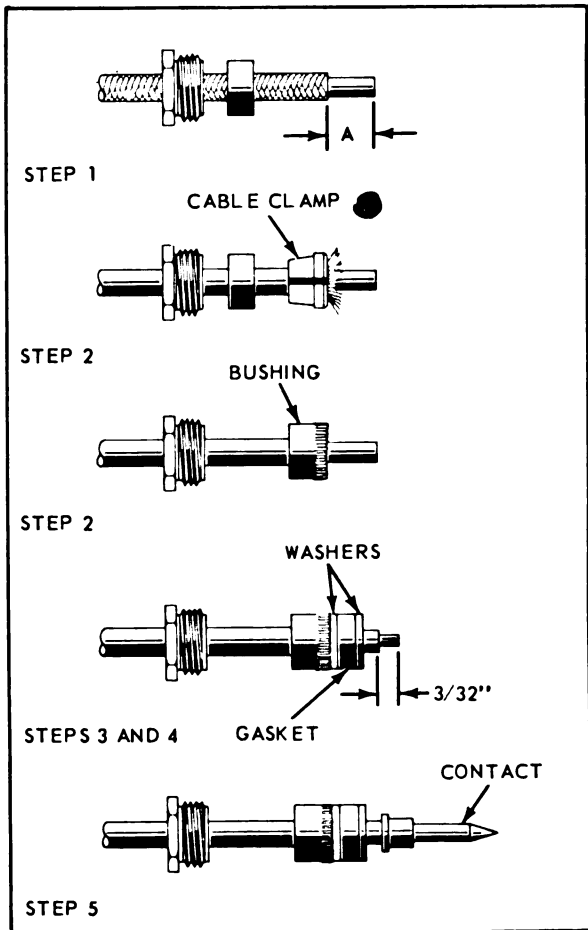

Figure 4-44. Attaching Liquidometer S-62 and S-63 Connectors to Coaxial Cable
b. Assembly of Liquidometer S62 and S63 series connectors to RG-58/U coaxial cable (See figure 4-44).